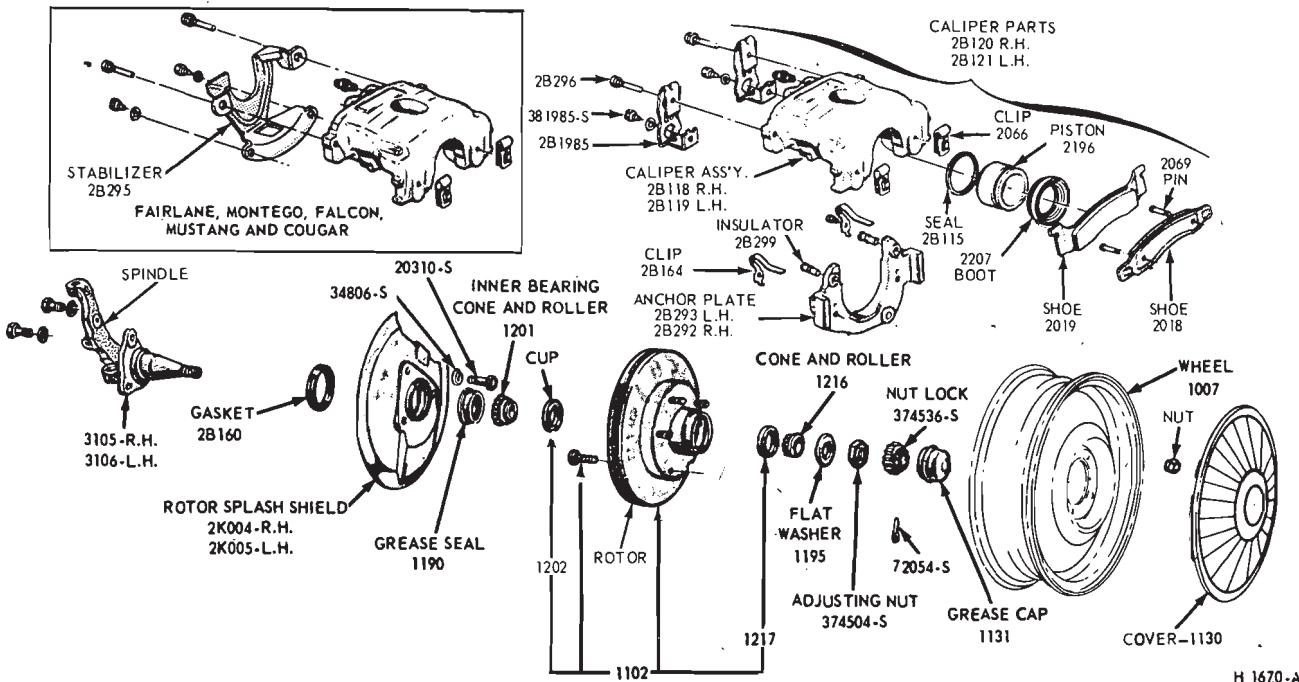

FIG. 9—Disc Brake Disassembled
1. If the rotor is being replaced, remove the protective coating from the new rotor with carburetor degreaser. Pack a new set of bearings with specified grease (M-1C75B), and install the inner bearing cone and roller assembly in the inner cup. Pack grease lightly between the lips of a new grease seal and install the seal (Fig. 9).
2. Remove the three bolts that attach the splash shield to the spindle, and remove the shield (Fig. 9).